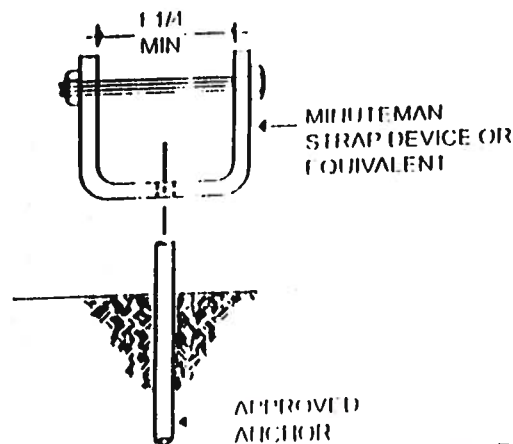

FIG. 5-10
1. Install the ground anchors under exterior corners. The final strap angle and height (H) will be within the limits shown in tables 5 thru 6C.
2. Tie the straps to the frame and ground anchors (See Fig. 5-10). Straps wrapped around the I Beam as
2. Strap end connection devices (See Fig. 5-10)